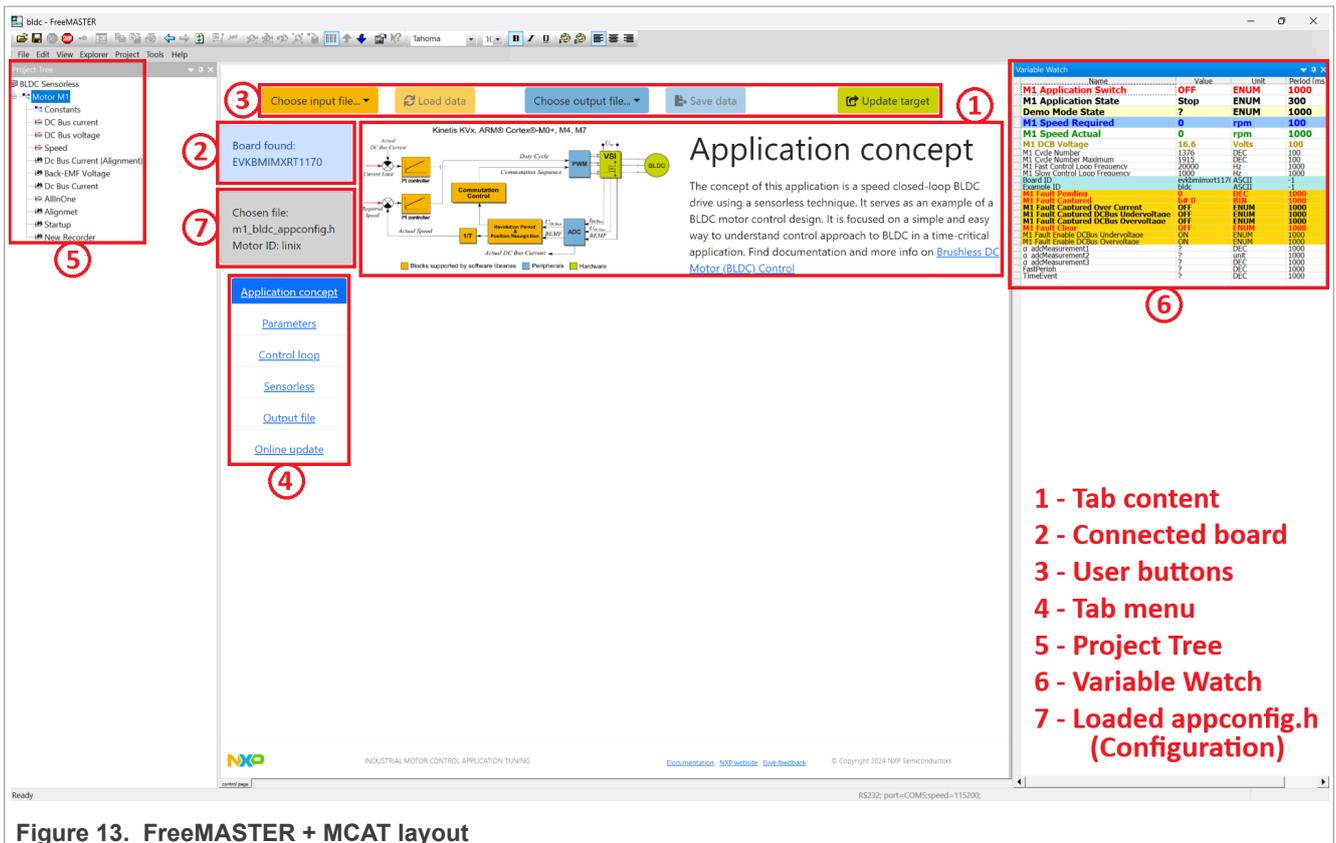

Figure 13. FreeMASTER + MCAT layout
The BLDC sensorless application can be easily controlled and tuned using the Motor Control Application Tuning \(MCAT\) plug-in for BLDC. The MCAT for BLDC is a user-friendly page, which runs within the FreeMASTER. The tool consists of the tab menu and workspace as shown in Figure 13. Each tab from the tab menu (4) represents one submodule which enables tuning or controlling different application aspects. Besides the MCAT page for BLDC, several scopes, recorders, and variables in the project tree (5) are predefined in the FreeMASTER project file to further the motor parameter tuning and debugging simplify.